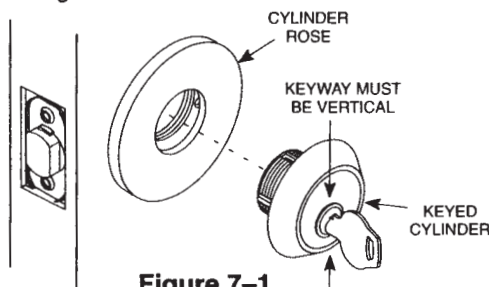

Figure 7-1
- See Figure 7-1. Hold cylinder rose against door. Insert key into cylinder. Pull key out one notch and screw cylinder into housing until it stops. (Use key as wrench.)